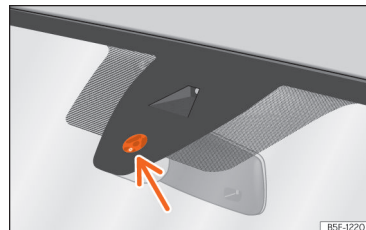

Fig. 107 Rain sensor sensitive surface
The possible causes of anomalies and erroneous interpretations *in the sensitive surface area* »» Fig. 107 of the rain sensor are, among others:
- **Dirt:** dry dust, wax, coating on glass (Lotus effect) or traces of detergent (car wash) may reduce the effectiveness of the rain sensor or make it react more slowly, later or not at all. Regularly clean the sensitive surface of the rain sensor »» Fig. 107 (arrow) and check for possible damage to the wiper blades.